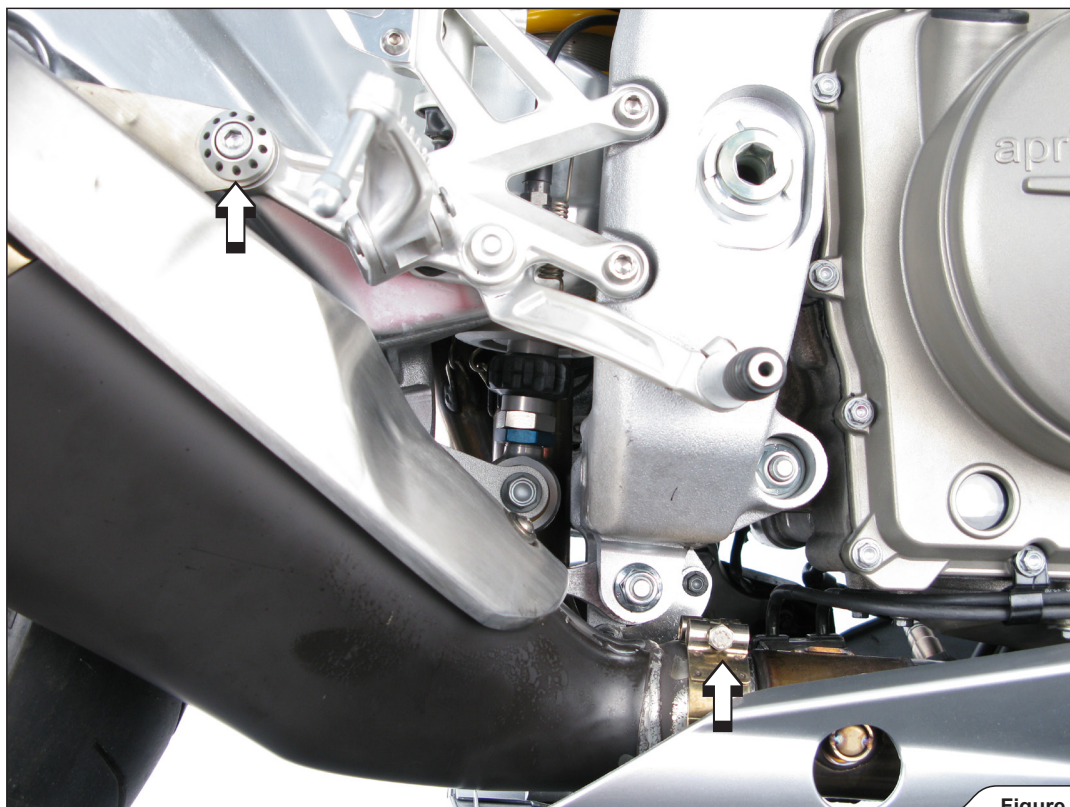

Figure 1
2. Unscrew the marked bolts from the muffler hanging, the metal clamp at the muffler link pipe-collector connection and lower muffler bracket (**Figure 1, 2**). Remove the muffler.